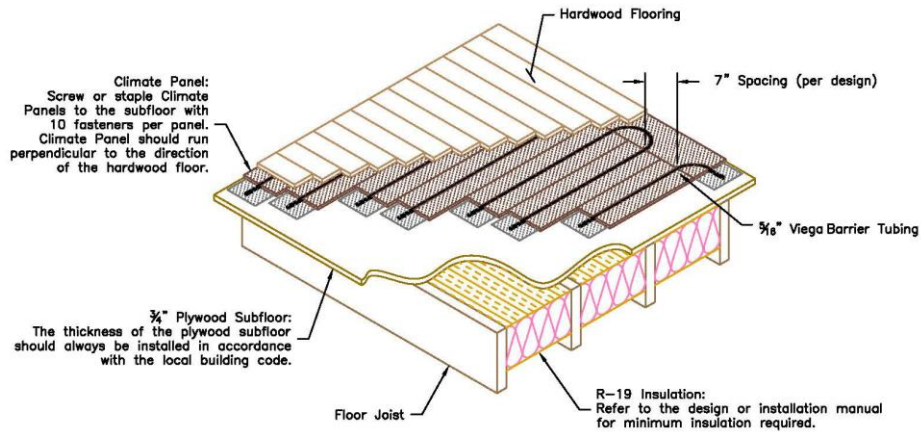

Figure 1 Climate Panel – Joist Subfloor - Hardwood
**General:** Viega LLC tubing, and fittings must be manufactured, identified and installed in accordance with this listing, the applicable codes and the manufacturer's published installation instructions. Manufacturer's published installation instructions must be furnished to the code official. Installation must conform to the requirements of the applicable code and is subject to approval by the code official having jurisdiction. The outer and aluminum layers of PureFlow FostaPEX® tubing must be removed with a tool supplied by Viega LLC before a pipe/fitting joint is made. Installation and design of the heating system for each type of construction must conform to the manufacturer's instructions and Chapter 12 of the IMC or Chapter 21 of the IRC and is subject to approval by the code official. The system must be installed by Viega LLC-trained installers. Mounting brackets and installation hardware are provided by Viega LLC. Horizontally laid pipe must be secured in such a manner that temperature-induced expansion and contraction are accommodated. Minimum bending radius is 8 times the outside tube diameter of the PEX tube. The outside tube diameter is the nominal diameter plus 1/8 inch (3.2 mm). Tubing must be protected from prolonged exposure to direct sunlight or fluorescent lighting and must be protected from physical damage with an oversized sleeve at structural mass penetrations and when the tube is uncovered. Typical installation details are shown in Figures 1 – 10.
**Climate Panel Floors:** After the panels have been laid, the tracks must be vacuumed of debris and a bead of approved silicone sealant (e.g., Viega Groove Tube heat transfer adhesive) must be placed in the track prior to installation of the PEX tubing. Batt insulation must be installed beneath the subfloor in the joist cavity. See Figures 1.